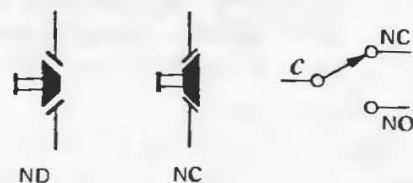

Figure 1.99. Momentary-contact (push-button) switches.
Push-button switches. Push-button switches are useful for momentary-contact applications; they are drawn schematically as shown in Figure 1.99 (NO and NC mean normally open and normally closed). For SPDT momentary-contact switches, the terminals must be labeled NO and NC, whereas for SPST types the symbol is self-explanatory. Momentary-contact switches are always "break before make." In the electrical (as opposed to electronic) industry, the terms form A, form B, and form C are used to mean SPST (NO), SPST (NC), and SPDT, respectively.